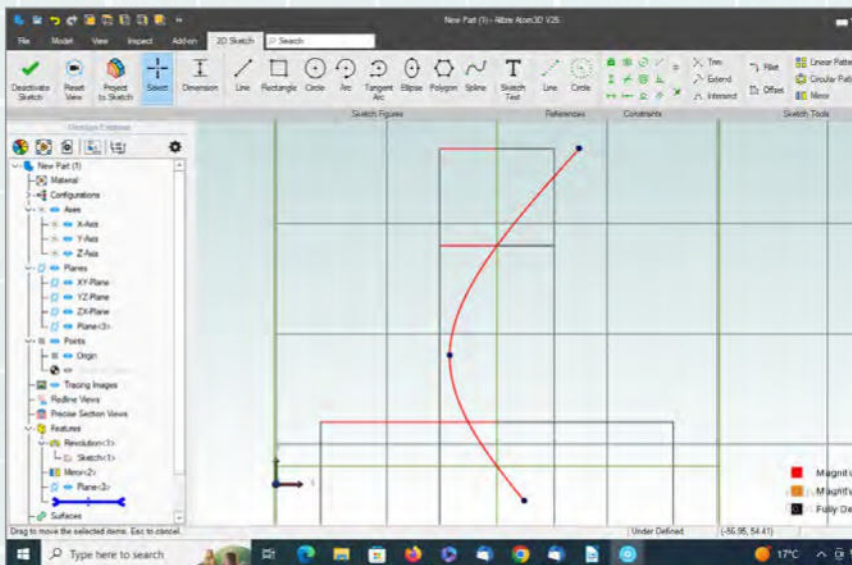

Fig. 8. Path for the spoke passing through intersections
Click on Model, which is next to View above the tool ribbon, to return to the usual screen. Select the XY plane and click on Activate 2D Sketch in the tool ribbon. The new offset plane we created is shown as a green line. The path for our sweep ideally will go through the intersection of that plane and the vertical plane (YZ), as well as the intersection of the vertical plane and the under-surface of the outer rim (Fig. 8).
The next spot to click as you draw out the now-curving line should be above the under-surface of the rim and at a position that makes the curvy line pass through the centre of the rim edge (Fig. 8). Don't worry if it is not exact. Move the cursor away and hit the Esc key to get out of the Spline function.